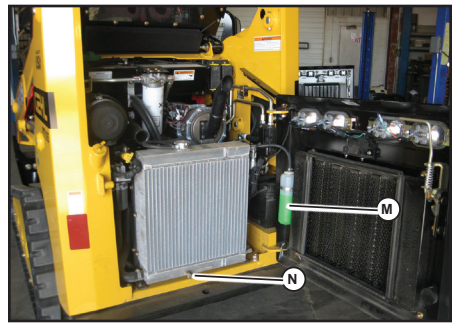

Fig. 73 - Cooling System
- Open the rear door. Check the coolant level in the coolant recovery tank (M, Fig. 73) on the inside of the rear door. The coolant recovery tank must be 1/3 to 1/2 full with a cold engine and 2/3 to 3/4 full with a hot engine.
6. Remove the drain plug (N, Fig. 73) and drain the coolant into a suitable container with a minimum capacity of 6,62 L (7 U.S. qts.) underneath the radiator.